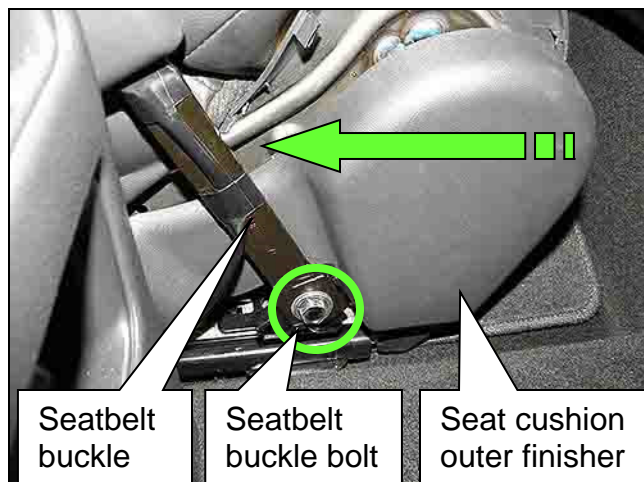

Figure 10
16. Torque the seatbelt buckle bolt (Figure 10).